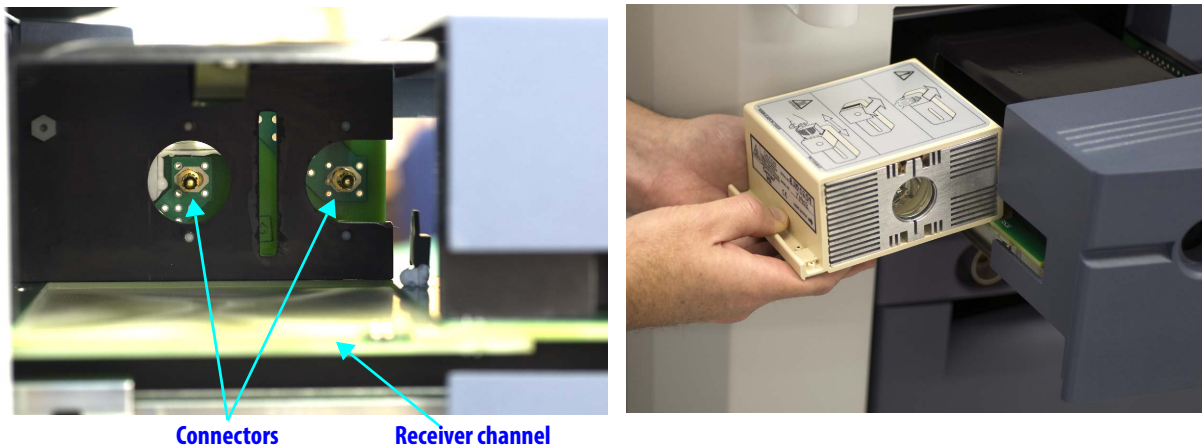

Figure 12.5 Installing new lamp module
2. Carefully align the sides of the module and place in the receiver channel (see Figure 12.5). To ensure proper connection, firmly push the module as far as it will insert. The edge of the module will be flush with the sides of the drawer once connected.